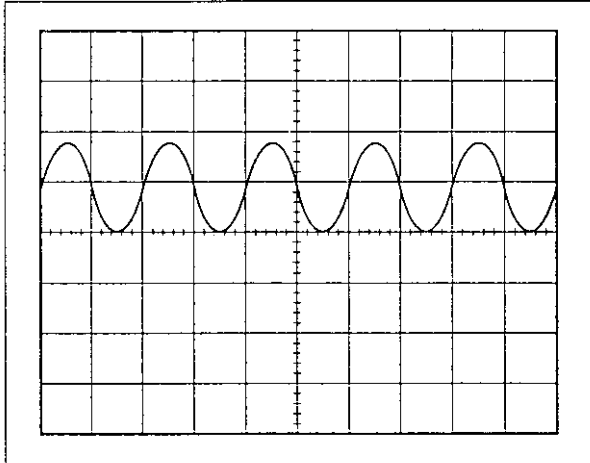

Figure 8. FM detector.
2. Set the signal generator to FM, 2,5 kHz deviation. Check the demodulated signal. The waveform should be as in figure 8, with an amplitude of 75 - 125 mVp-p.